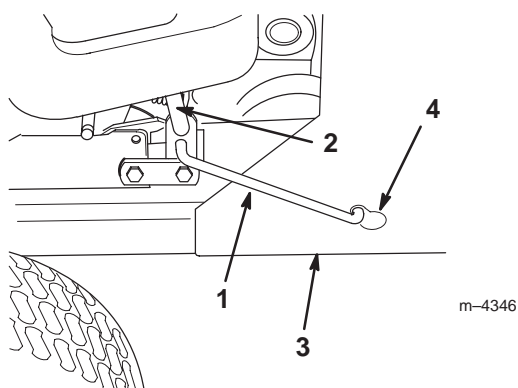

Figure 20
11. On the right side of the tractor, pull forward on the spring tension lever and connect the spring tension link to the keyhole slot in the snowthrower frame (Fig. 20).